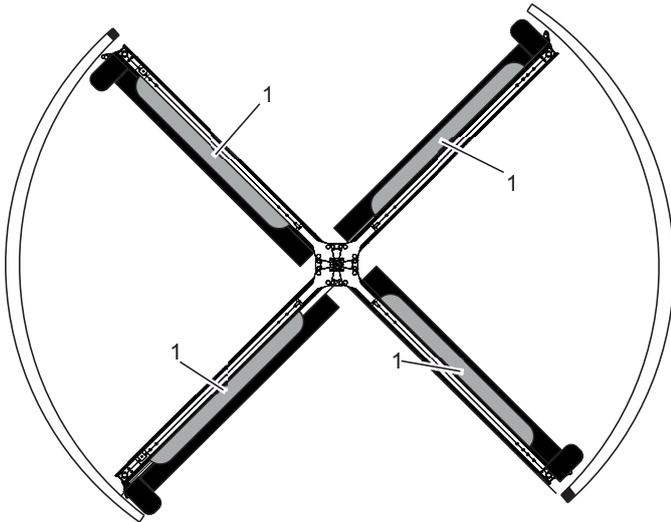

Fig. 124 Pre-detection sensors (example)
1. Remove housing cover (Fig. 124/1) on pre-detection sensors.
2. Insert pre-detection sensors in pre-fitted housing (Fig. 124/1). Note information on supplier documentation.